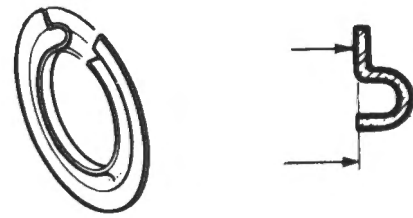

Fig. M-76
- 4 Check spring retainer (Fig. M-76) for dimensional correctness. The surfaces should be flush within 0.50 mm (0.020 in). If beyond these limits fit a new spring seat or grind off excess material.